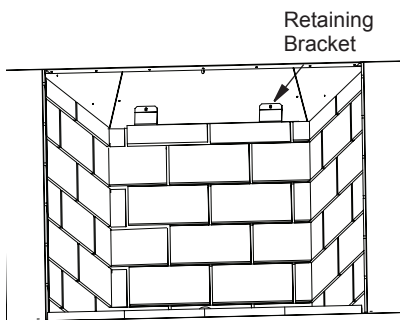

Figure 24 - Installing Rear Wall
4. Install the rear firebrick wall last. Place the wall face side down on the hearth with the bottom of the wall toward the rear of the fireplace. Tilt the wall up toward the back of the firebox. Secure with 2 rear retaining brackets provided (Figure 24).